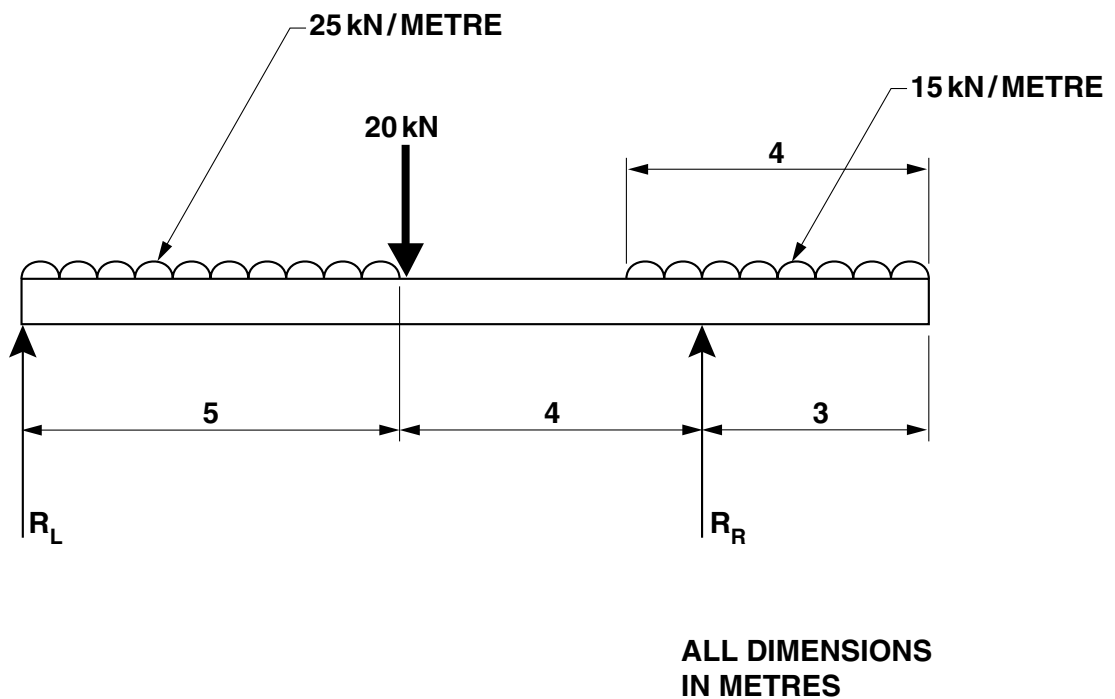

Fig. 8
- 8 Fig. 8 shows a beam simply supported as shown. There are two uniformly distributed loads and one concentrated load as indicated.